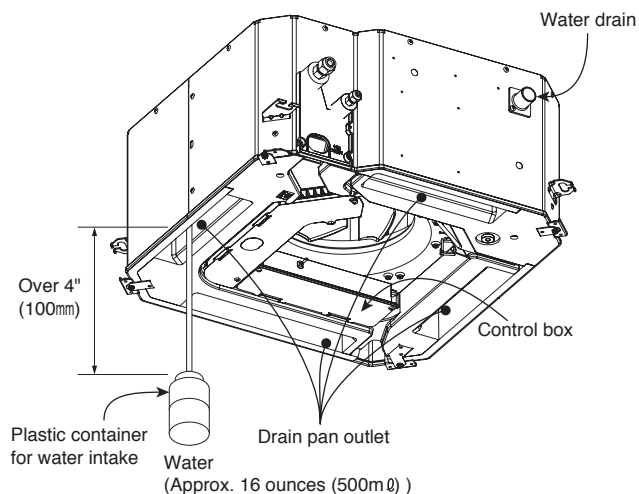
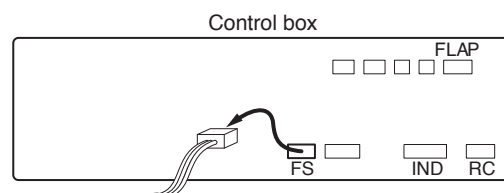

Fig. 6-10a
Fig. 6-10b
- (1) Turn on the power. (Here, "power" refers to the power supply from the outdoor unit.)
- (2) Slowly pour approx. 16 ounces (500 ml) of water into the drain pan to check drainage. (Fig. 6-10a)
- (3) Remove the 2 screws from the control box cover, then open the cover. Be careful not to drop the cover at this time.
- (4) Disconnect the FS 3P connector (red) on the control PCB and operate the drain pump. (Fig. 6-10b) Check the water flow through the transparent drain pipe and see if there is any leakage.
- (5) When the check of drainage is complete, reconnect the FS 3P connector and remount the control cover.